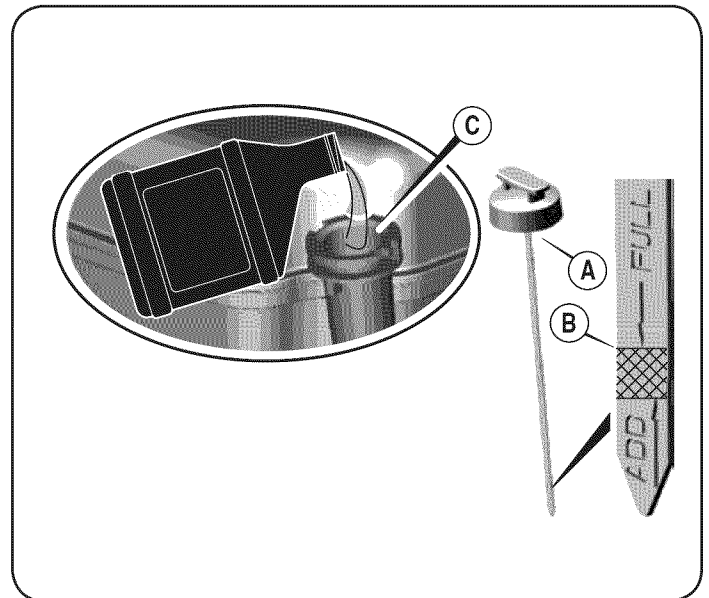

Figure 4
1. Remove the dipstick (A) and wipe with a clean cloth. See Figure 4.